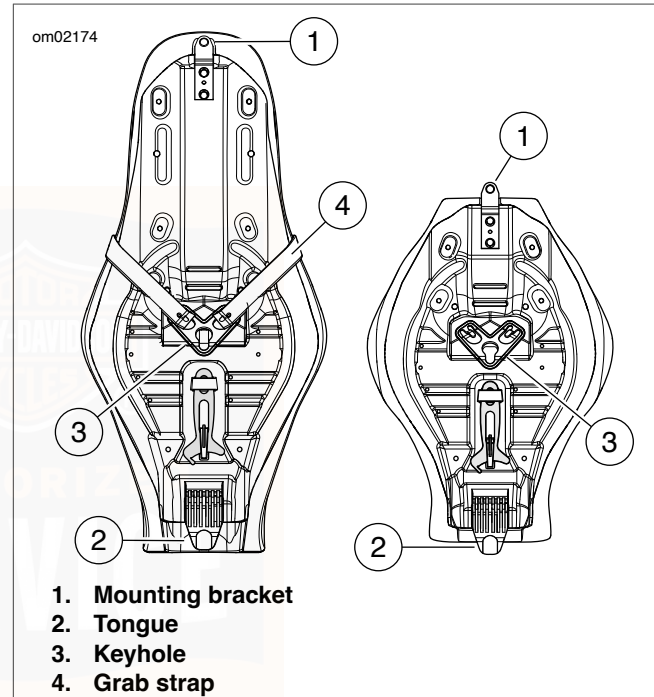

Figure 79. Solo and Two-Up Seats
1. See Figure 79. Position seat on frame with mounting bracket (1) at rear.
2. Slide seat forward until the tongue (2) fits snugly under fuel tank bracket.
3. Push seat forward to engage keyhole (3) onto seat post. Pull seat back slightly.